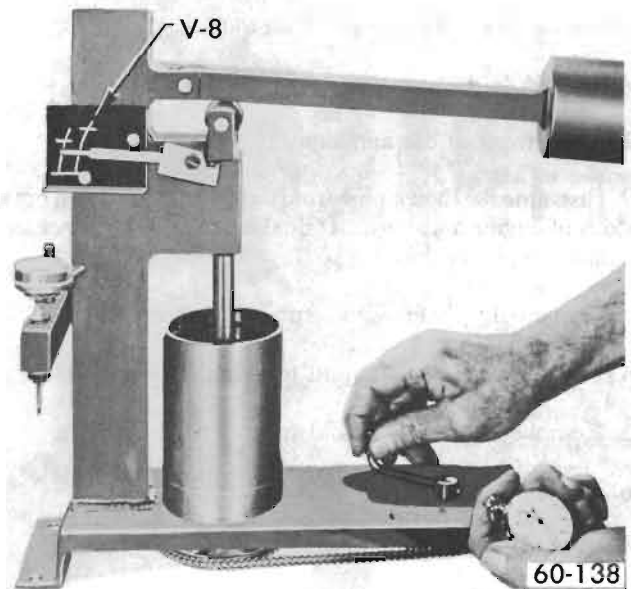

Figure 60-87 - Checking Lifter Leakdown Rate
4. Lower the ram to rest in the lifter push rod seat, then lower the weight arm to rest on the roller of ram as shown in Figure 60-87.